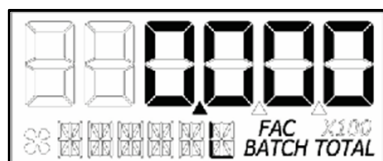

Figure 8-4
**NOTE:** After the **Total** button is released, the display will return to Batch Total screen and will increment the total if flow is detected. (See Figure 8-4)